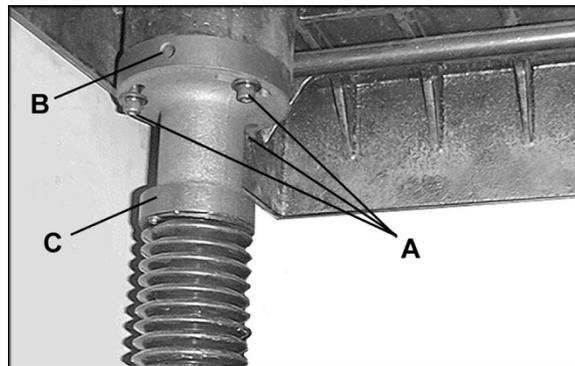

Figure 19
3. Loosen the three socket head cap screws (A, Figure 19) beneath the table.
4. Place a rod-like object (such as a hex wrench) into one of the open holes (B, Figure 19) and turn the shaft (C, Figure 19) to raise the table until the gauge reads the proper measurement. Or, the same effect can be achieved by lowering the other side of the table.
5. Re-tighten the screws (A, Figure 19).